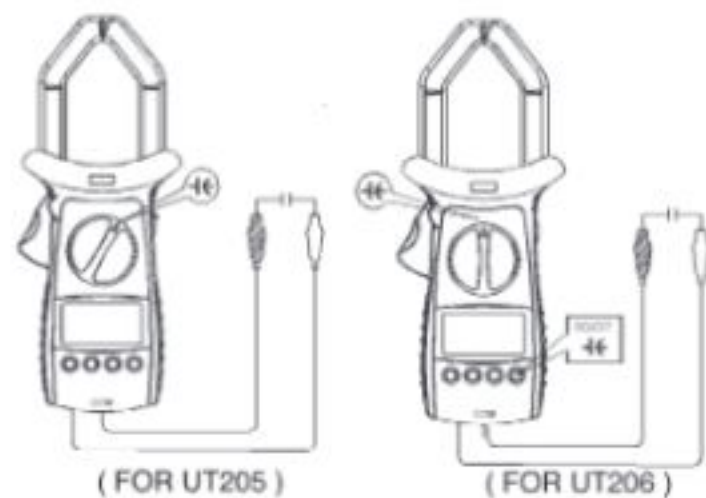

FIG 8
- Connect the test leads to the proper terminals as said above to avoid error display. The LCD will display OL indicating diode being tested is open or polarity is reversed. The unit of diode is Volt (V), displaying the forward voltage drop reading.
F. Measuring Capacitance (See Figure 8)